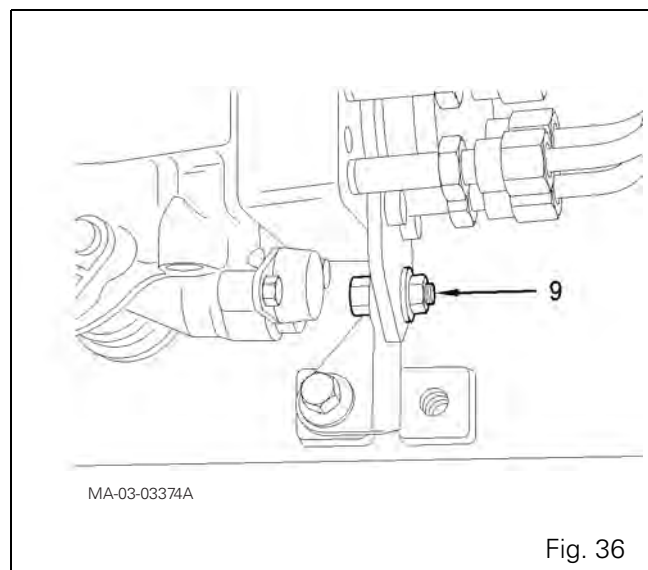

Fig. 36
180. Remove the nut and screw (9) (Fig. 36) from the pump support.